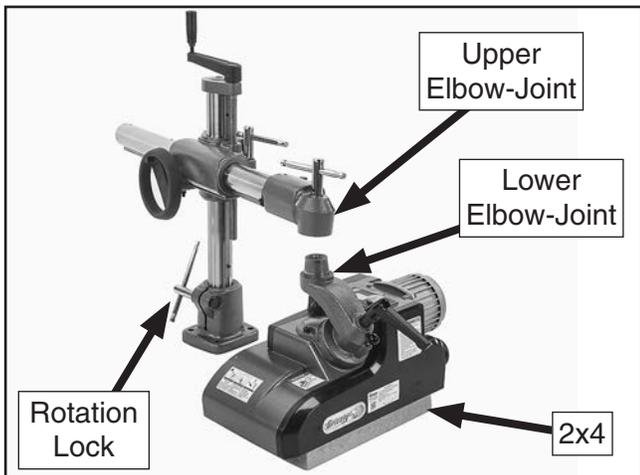

Figure 13. Upper and lower elbow-joints aligned.
- Loosen vertical and horizontal travel locks and rotation lock, and use horizontal handwheel and vertical travel handle to position upper elbow-joint directly over hub of lower elbow-joint (see **Figure 13**).